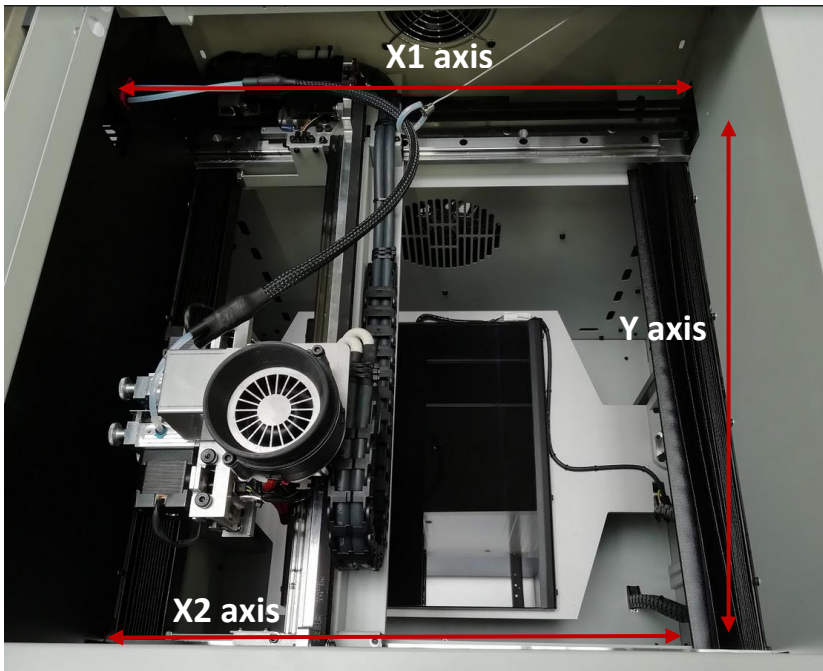

Fig. 38 Setting up the carriage
6. Position the carriage as shown in the picture (Fig. 38), viewing from the front of the printer:
7. Measuring the timing belt tension on the X1 axis (Fig. 38):
8. Measuring the timing belt tension on the X2 axis (Fig. 38):
9. Measuring the timing belt tension on the Y axis (Fig. 38):